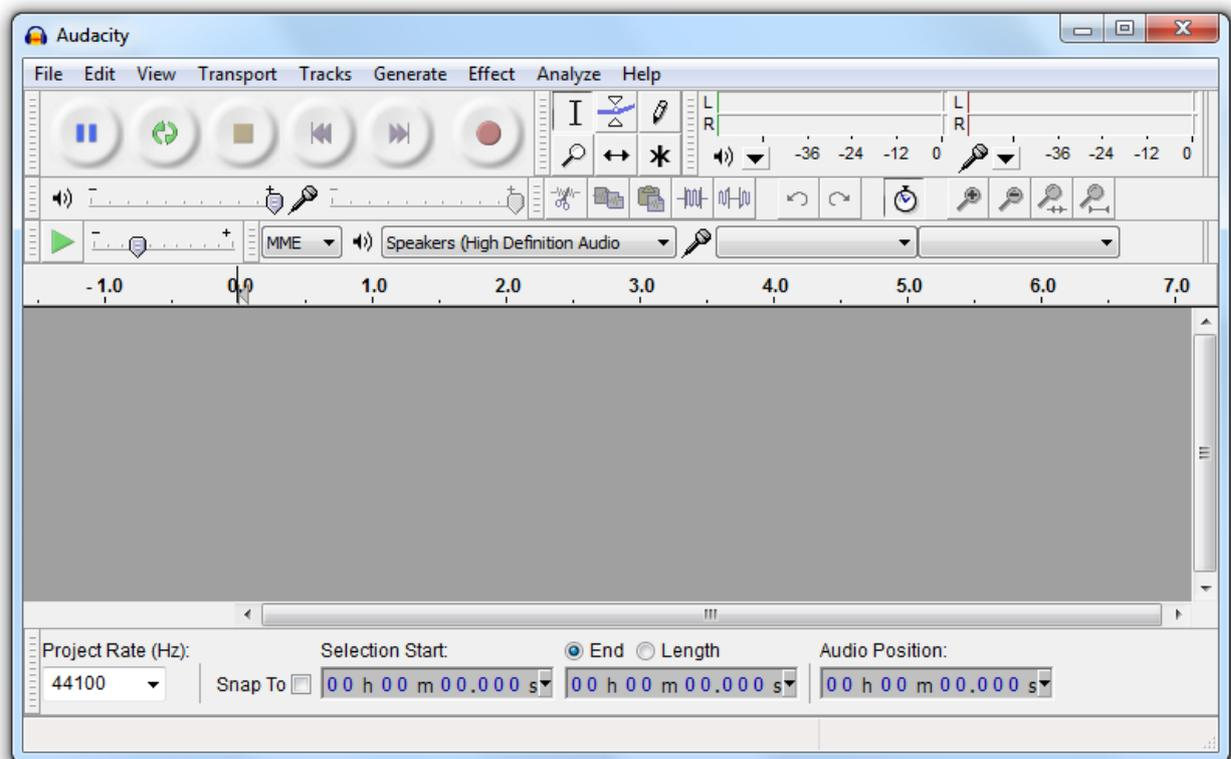

Figure 2-4, AREMBE Audacity Main Program Window
- 2) Start the AREMBE Audacity software from the windows **Start** menu. Navigate the list of programs to the **AREMBE**, **AREMBE Audacity** folder and click the **AREMBE Audacity** item in it. The main program window, figure 2-4, will be shown.